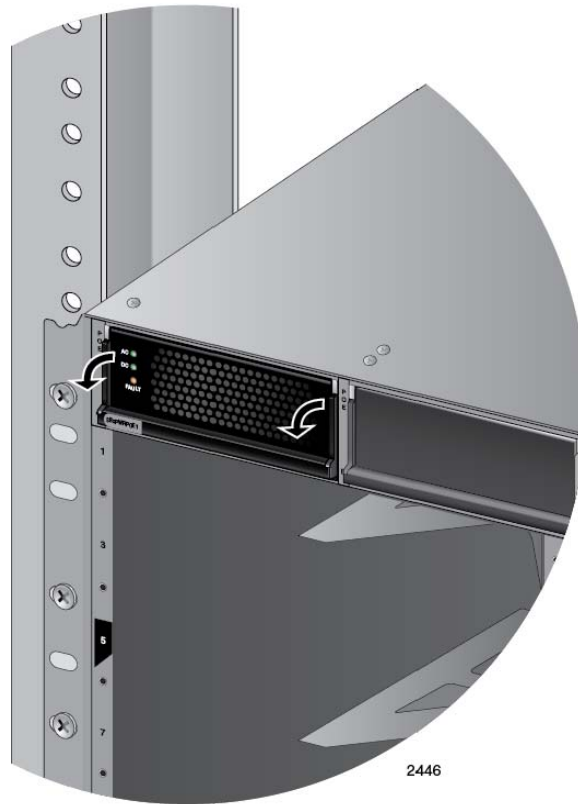

Figure 49. Locking the Handle on the AT-SBxPWRPOE1 Power Supply
6. Lower the locking handle of the power supply module to secure the module in the slot, as shown in Figure 49.